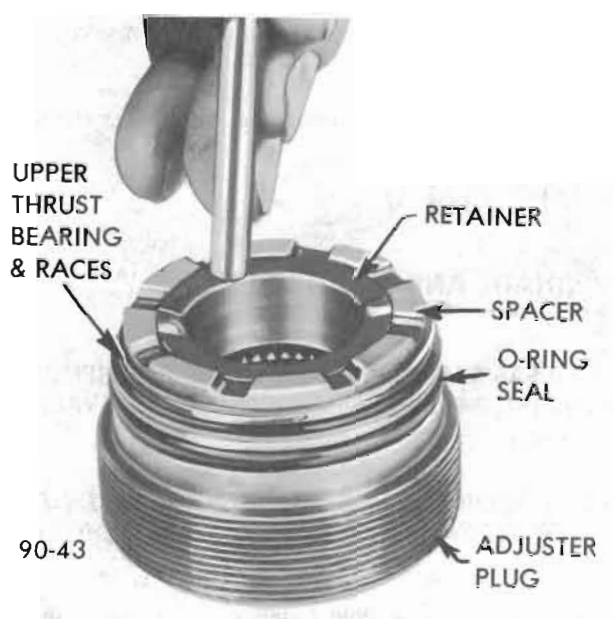

Figure 90-43 Installing Upper Thrust Bearing Retainer
3. Lubricate new adjuster plug "O" ring seal with petroleum jelly and install on adjuster plug. Assemble large O.D. thrust bearing race with internal flange up on adjuster plug, then thrust bearing, smaller thrust bearing race and thrust bearing spacer on adjuster plug. Install new thrust bearing retainer into needle bearing bore using punch, being careful not to damage spacer. See Figure 90-43. Radial location of dimples on retainer is not important. Thrust bearing assembly and spacer must be free to